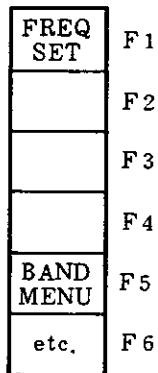

Fig. 3-9 Function Key Menu
- (b) First, turn the MN1602A power on and then turn the MS2601A power on. The frequency tracking program automatically starts running and the function menu changes to the one shown in Fig. 3-9.